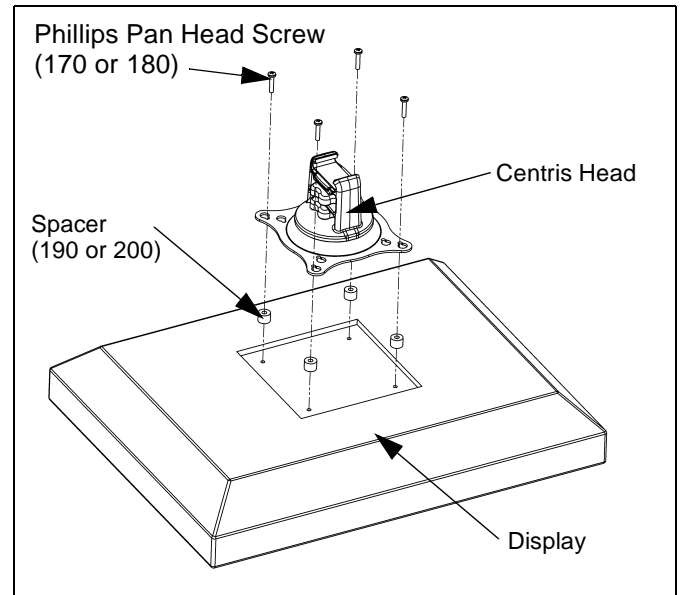

Figure 11: Mount Centris Bracket to Display
4. Place four 3/8" or 3/4" nylon spacers (190 or 200) over four mounting holes in display back (see Figure 11).
5. Align Centris head mounting holes with four nylon spacers (see Figure 11).
6. Secure Centris head to display using four M4 x 20mm Phillips pan head screws (170) [if using 3/8" (190) spacers], or four M4 x 30mm Phillips pan head screws (180) [if using 3/4" (200) spacers] (see Figure 11).